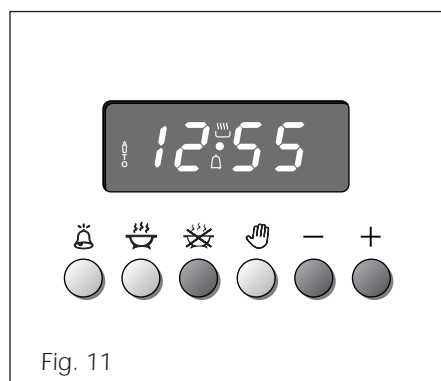

Fig. 11
2. Set the end of the cooking time by pushing the  button and the  button to advance, or  to go backwards if you have passed the desired time (Fig. 11).